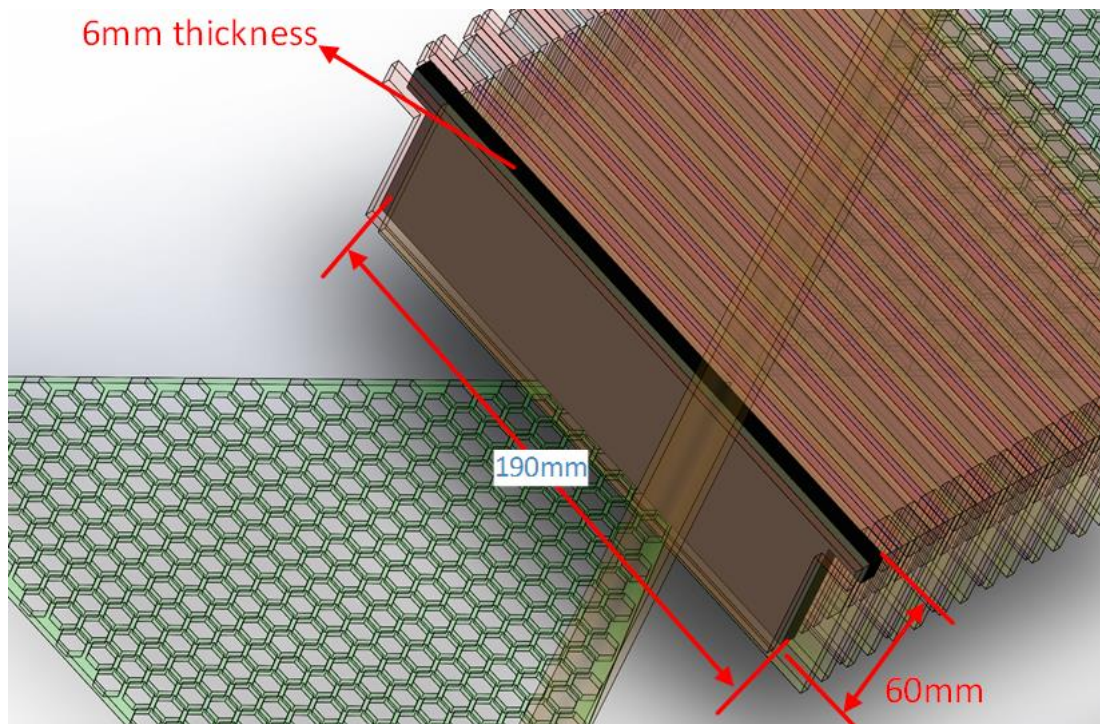

Figure 5 Negative electrodes
(2) The negative electrodes (black plate), 6cm x 19cm, 6mm thickness, see Figure 5